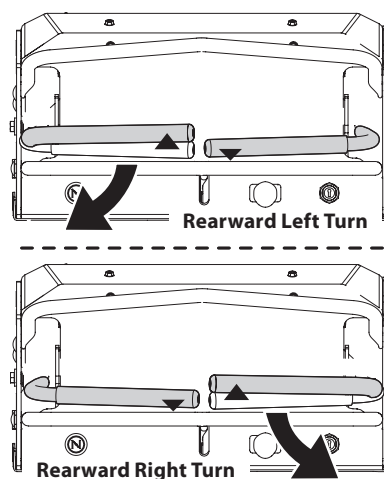

Fig. 13
1. To turn to the left while traveling in reverse, move the left drive control lever forward of the right drive control lever (Fig. 13).
2. To turn to the right while traveling in reverse, move the right drive control lever forward of the left drive control lever (Fig. 13).